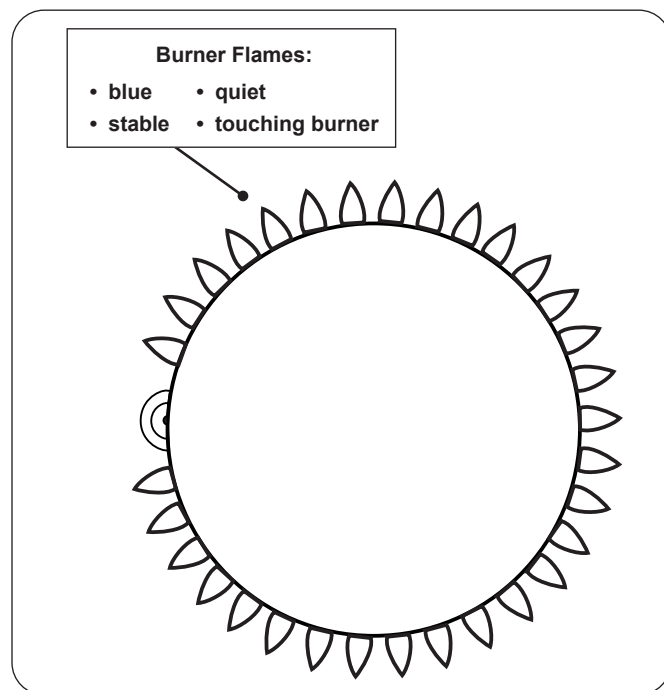

Fig. 40-1 Proper flame appearance
**Note:** To verify proper settings, the flames of the burners should be visually checked for proper flame appearance and behavior. Light the unit with the burner(s) on HI setting. Allow at least 2 minutes to burn. See below and Fig. 40-1. The flames should: